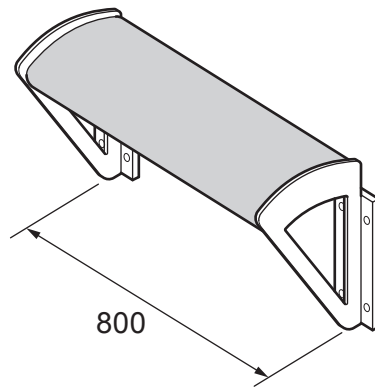

Fig. 4.1
- 4 Fig. 4.1 shows a wall-mounted bench used outdoors.